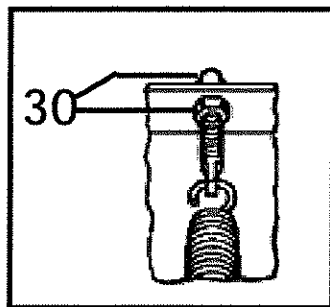

Figure 1
- A. Assemble Pivot Assembly (22) to A-Frame (23) using Pivot Pin (29) and Cotter Pin (33). **Note: Liberally coat Pivot Pin with a chassis grease/anti-seize lubricant.**
- B. Assemble Eye Bolts W/Locknut (30) to Trip Springs (24&26). Install four Trip Springs (26) onto Pivot Assembly (22). (Open end of hooks must be facing down on pivot assembly.)
- C. Guide Eyebolts into A-Frame (23) Attach Eye Bolts (30) to A-Frame (23),
- D. Make certain each Eye Bolt (30) is in a vertical position as shown in figure 1 so that the Eye Bolt (30) and Trip Spring (26) hinge properly when moldboard trips.